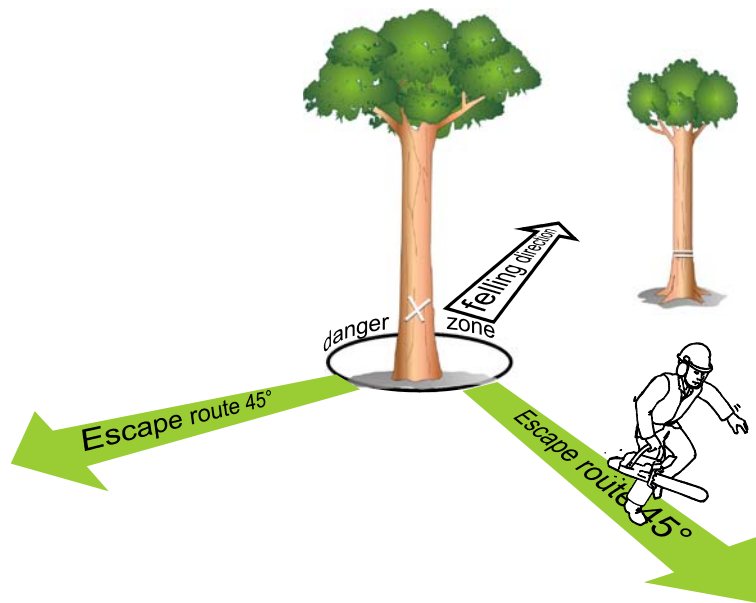

Figure 82 Create two escape routes
- Choose a line of retreat 45° diagonally backwards, away from the direction of fall. (Fig. 82).